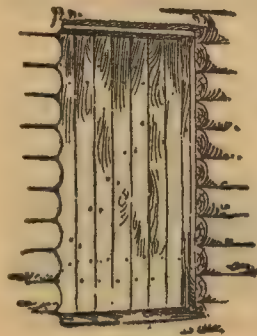

FIG. 29.
**DOORS.**—Make your doors (Fig. 29) of matched boards with good wide battens, top, bottom and middle, with braces to keep from sagging.